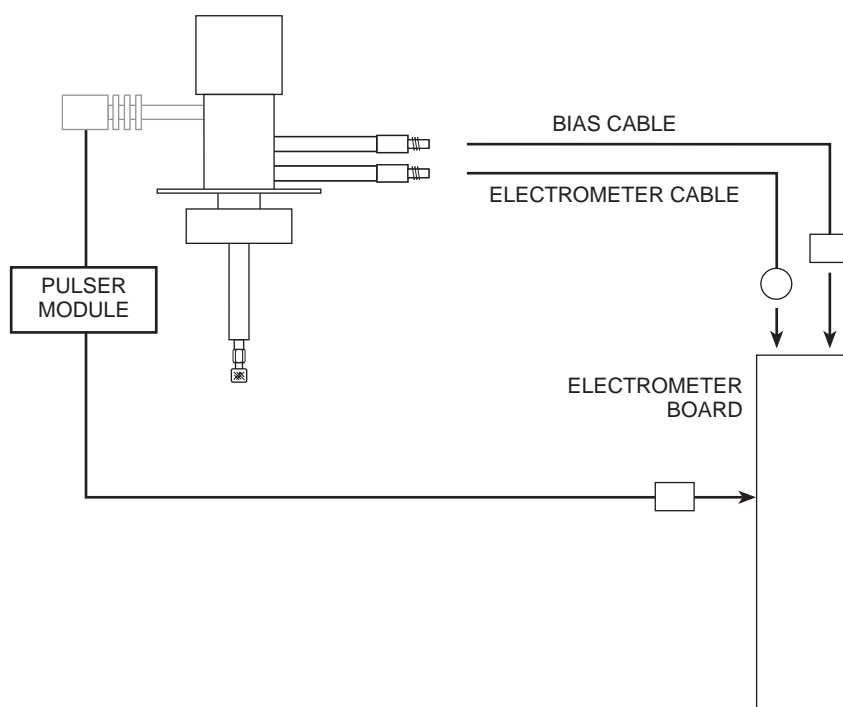

Figure 5: Schematic of electrical connections
1. Referring to **Figure 5** as necessary, connect the **BIAS** cable to the top electrode and the electrometer cable (**ELECT**) to the bottom electrode.